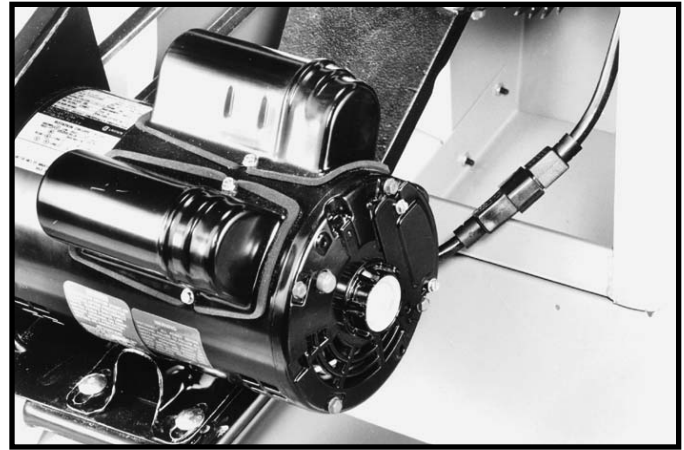

Fig. 27
2. Fig. 27, illustrates the motor cord connected to the switch assembly.